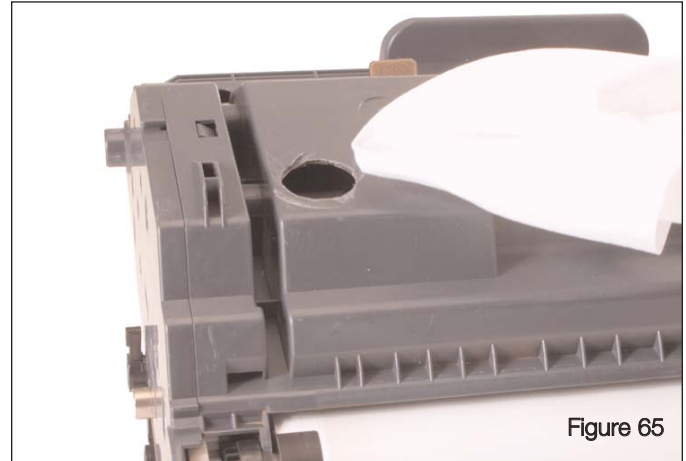

Figure 65
1. Clean the Waste bin using dry filtered compressed air. With a small file or sand paper, remove all rough edges on the surface where the Patch will be placed. Clean the area around the drilled hole in the Waste Bin with 91-99% Isopropyl Alcohol as shown in Figure 65. Make sure no toner is present in the area immediately surrounding the hole.